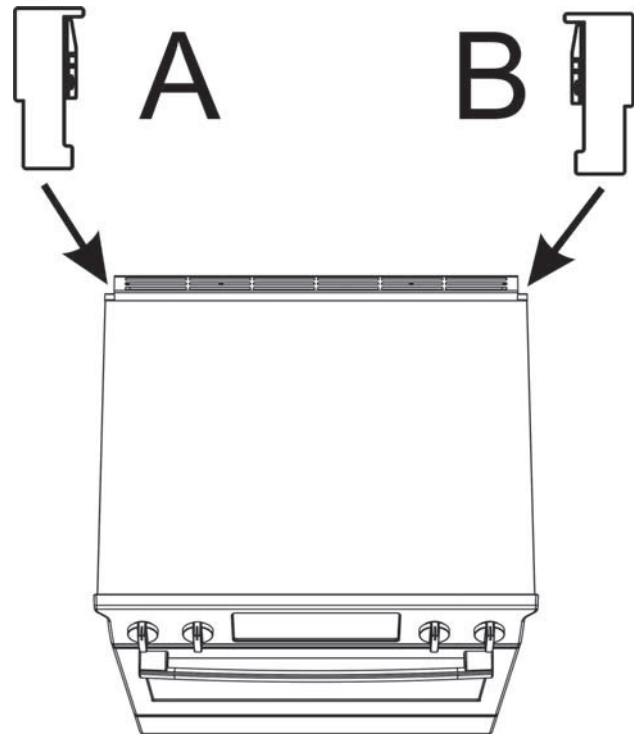
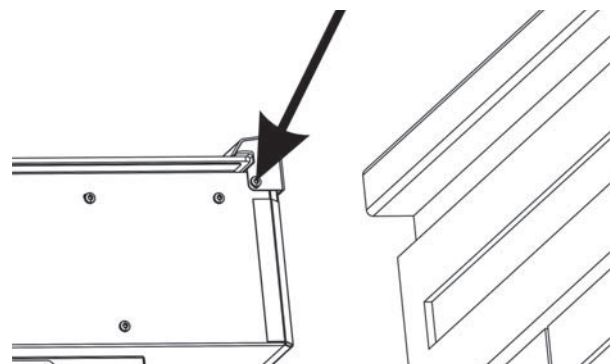

Figure 1: Identify right and left corner covers, top view of range
Figure 2: Rear trim side screw location, right rear side of range
If the range is already installed, can the range slide out enough to give access to the side screws of the rear trim? See Figure 1: Identify right and left corner covers, top view of range and Figure 2: Rear trim side screw location, right rear side of range.
2. Identify which corner cover piece is to be attached to the left (A) and right (B) rear of the range. See Figure 1.
3. Slide the range out enough to access the rear trim side mounting screws (see Figure 2: Rear trim side screw location, right rear side of range). Read the *Proper Handling Technique Notice* in the Safety Section of this manual.
4. Remove only the two side screws holding the rear trim (one on each side)(see Figure 2: Rear trim side screw location, right rear side of range). Save these screws to attach the corner covers. If there are no screws in these locations, screws are included in the kit for this purpose.